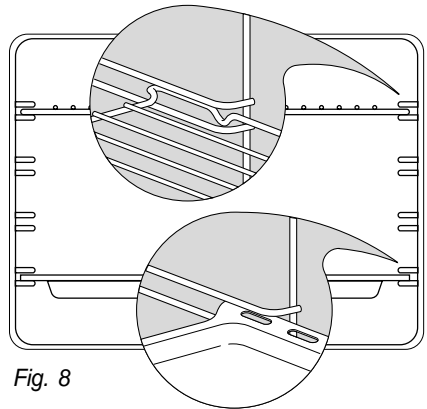

Fig. 8
- Slide in, on the guides, the shelf and the tray etc. (Figure 8).